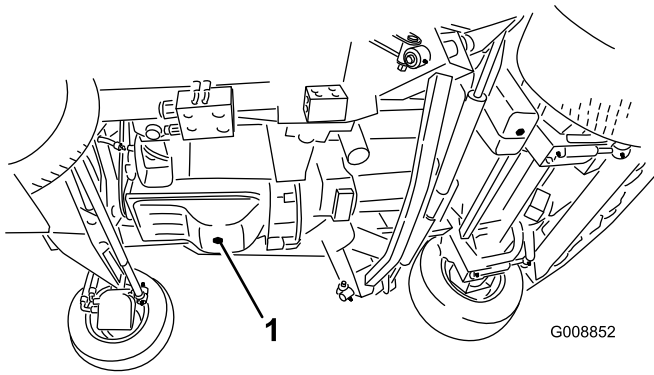

Figure 63
1. Remove the drain plug (Figure 63) and let the oil flow into a drain pan. When the oil stops, install the drain plug.